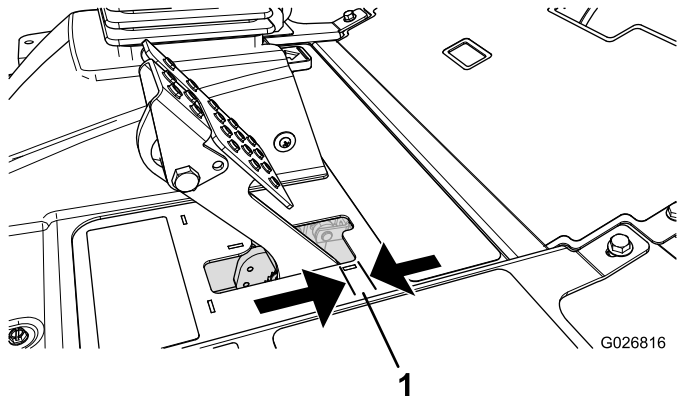

Figure 95
Adjust the brakes when there is more than 2.5 cm (1 inch) of free travel of the brake pedal, or when more holding force is required (Figure 95). Free travel is the distance that the brake pedal moves before you feel braking resistance.
2. Tighten the rear nut to move the cable backward until brake pedals have 0.63 to 1.27 cm (1/4 to 1/2 inch) of free travel, before the wheel locks up (Figure 95).